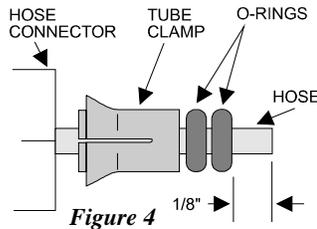

Figure 4
3. Install hose connector, tube clamp and two O-rings onto one end of the air hose (See Figures 4 & 5) Apply rubber lubricant (soap solution, not oil) to the O-rings to ease installation on the air hose & into the shock absorber inlet. Plastic connector should just bottom on fitting. **Do not overtighten!** The function of the
- After routing the air hose, trim the length to fit air fill valve. Install hose connector, tube clamp, and two O-rings onto end of hose (See figures 4 & 5). Lubricate as above and assemble to air fill valve. Use the same procedure for mating hose. *Important*—leave a small amount of slack in hose near shock